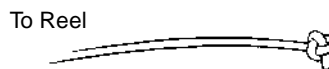

Figure 4.7 Stopper knot
STEP 1. Replace the cord on the reel using a stopper-knot (Figure 4.7).